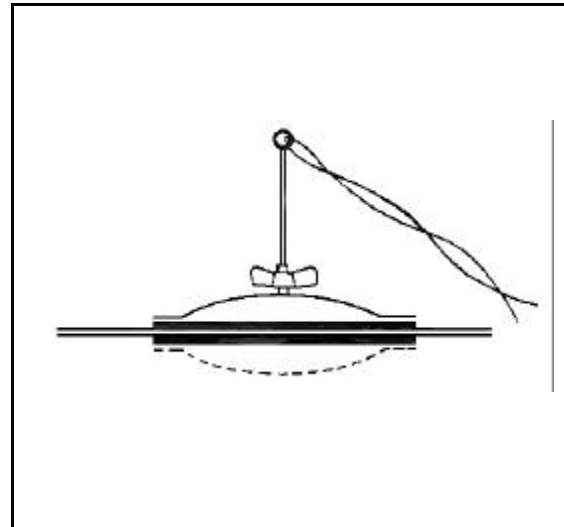

Figure 10-29. Tightening
- Hold it in place and screw down the wing nut until it is tight (Figure 10-29).